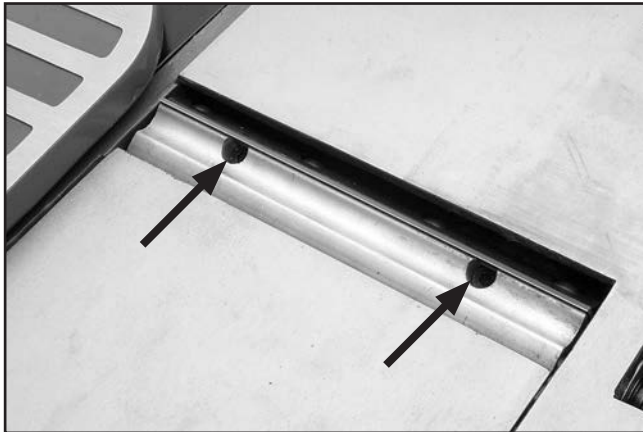

Figure 40. Knife adjustment jack screws.
6. Access (2) jack screws through holes in cutterhead (see **Figure 40**). Rotate jack screws to raise or lower knife. When knife is set correctly, it will barely touch bottom of straightedge in each of the straightedge positions. Snug clamp bolts just tight enough to hold knife in place, and repeat **Steps 5–6** with remaining knife.